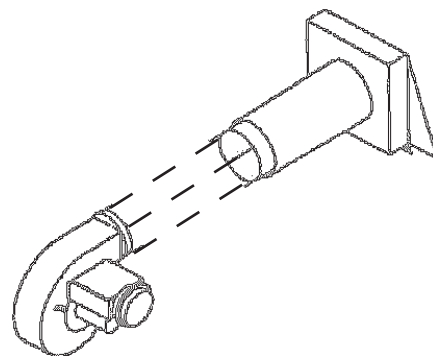

Fig. 4 Vent connection to power vent motor
3. Connect the power vent motor outlet to the inner sleeve of the vent hood (Fig. 4). Use the four pre-punched holes in the outlet collar of the power vent motor as a guide to drill 1/8" diameter holes into the vent pipe. Fasten power vent motor outlet to the vent hood inlet using sheet metal screws. Seal the connection with high temperature silicone sealant.
3. If heater is newly installed, verify power vent fan motor is not installed backwards (See Fig 4).